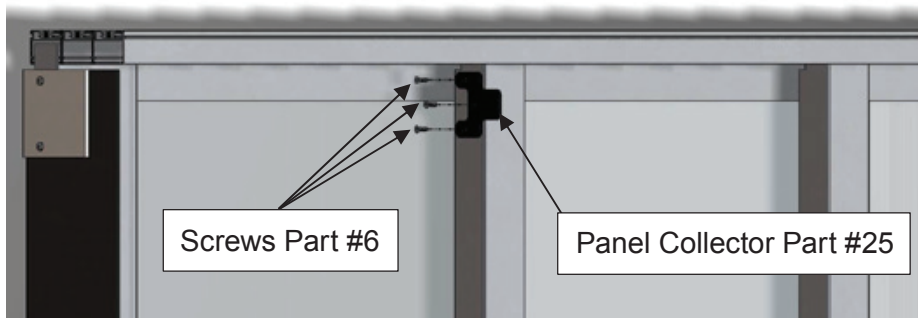

FIGURE 1
36. Install panel collector (Part #25) on the first intermediate panel using the pre-drilled holes and screws (Part #6) as shown in Figure 1. If more than one panel collector is necessary for your configuration (4 panels or more), install remaining panel collectors one at a time and ensure proper alignment as shown in Figure 2.